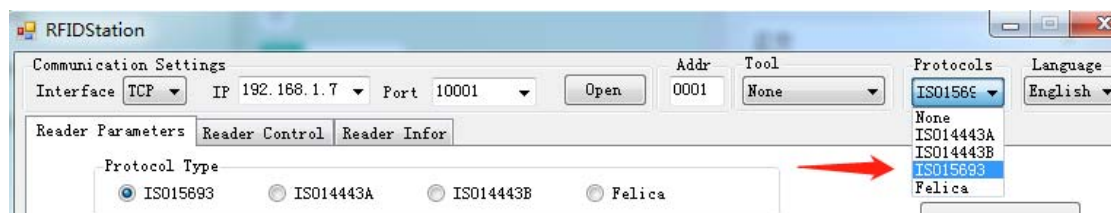
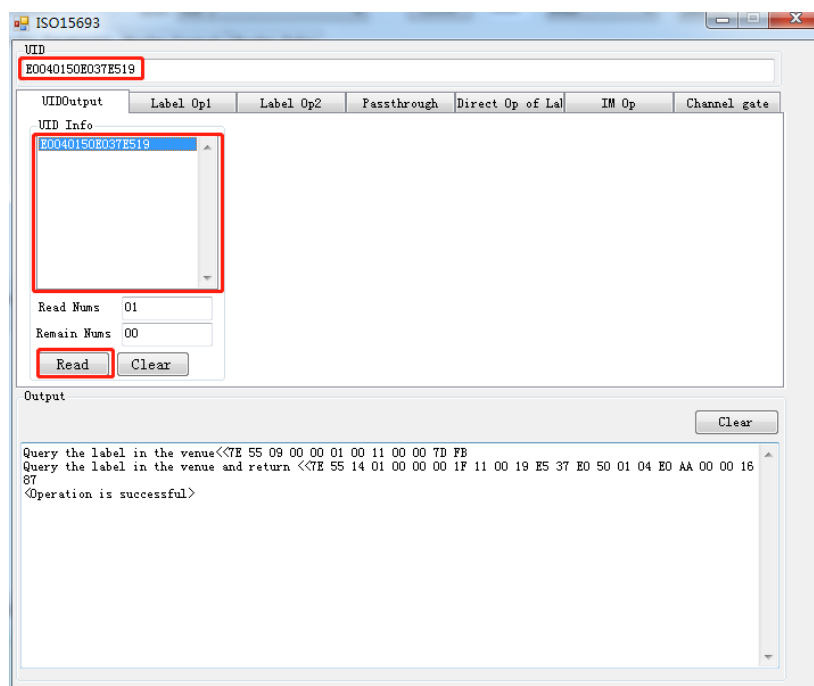

Figure 2.6 Label Operation selection
Figure 2.7 ISO15693 Label Operation window
Then select “ISO15693” protocol as shown in figure 2.6, and an “ISO15693” label operation window pops up as shown in figure 2.7.
- ① If ISO15693 label operation window shown in Figure 2.7 was closed unexpectedly during operation,
click the label operation selection box shown in Figure 2.6 again.